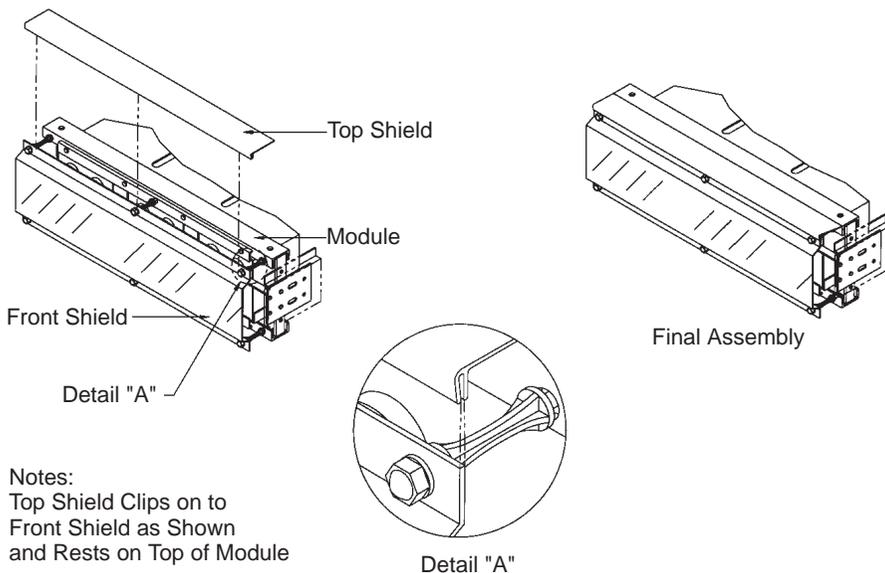

Figure 6-13: Side Terminal Assembly
3. For side terminal assembly, attach the top shield to the highest front shield as shown in Figure 6-13. For top terminal assembly,